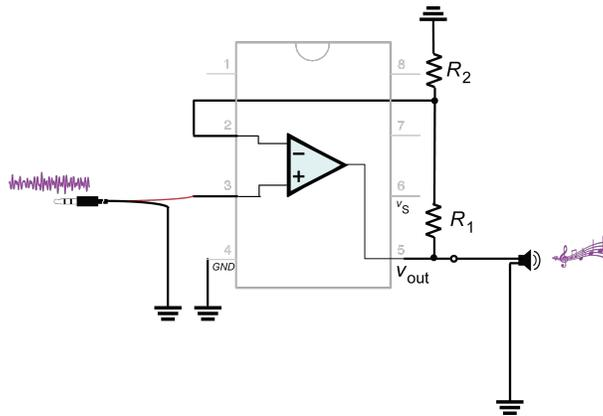

Figure 6: Simple audio amplifier. Can you spot the non-inverting op-amp configuration?
- 3.5. Without using jumper wires, position R_1 and R_2 according to the non-inverting op-amp configuration (Figure 6). Since R_1 connects v_{out} to v^- you can carefully push it in across the LM386, without needing jumper wires.